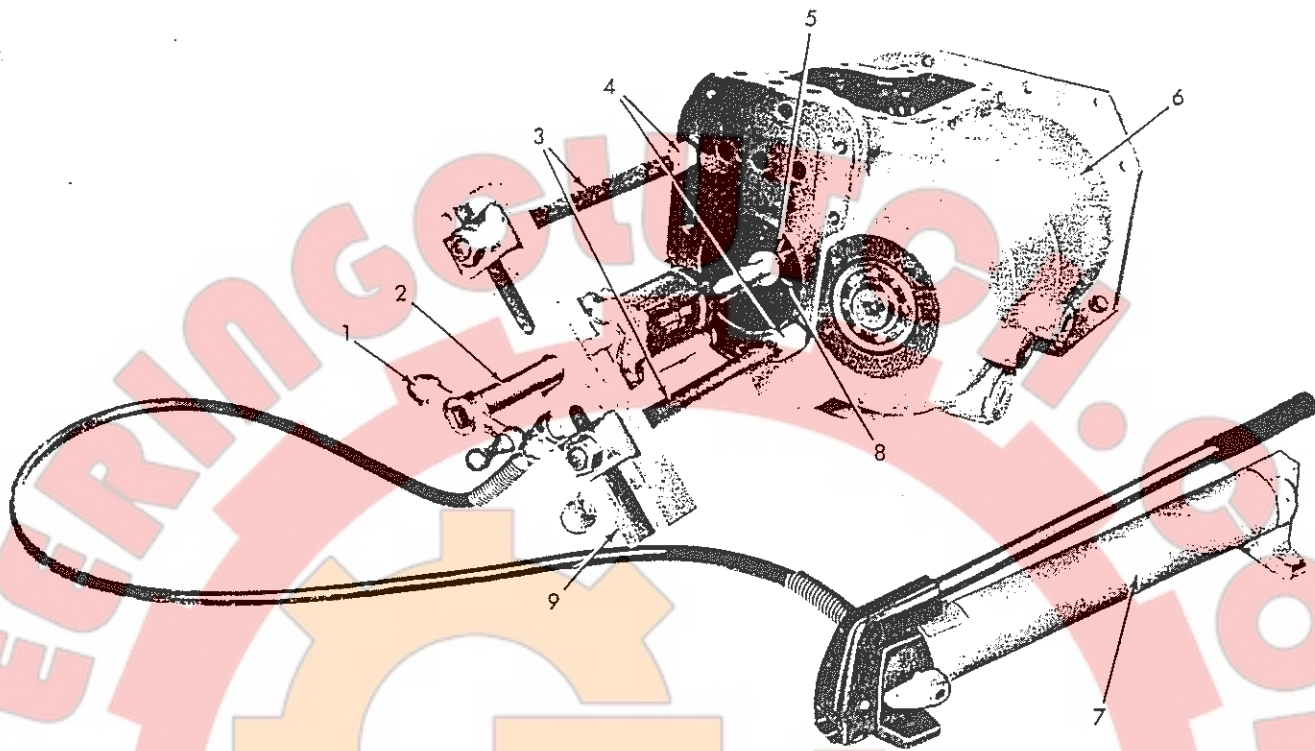

Fig. 6 Removing Pinion Shaft
13. Refer to Fig. 6; assemble tools as shown and press pinion shaft toward rear of transmission case until rear bearing is free of its bore. Remove tools and pull pinion shaft from case; remove shaft components as they are free of shaft. Tie pinion depth adjustment shims together and lay aside for reuse in assembly.
NOTE: Transmission in units S/N 21448-up has two inner thrust washers and one wide outer washer; see Fig. 6 or 7 in Section 2 in this Manual.